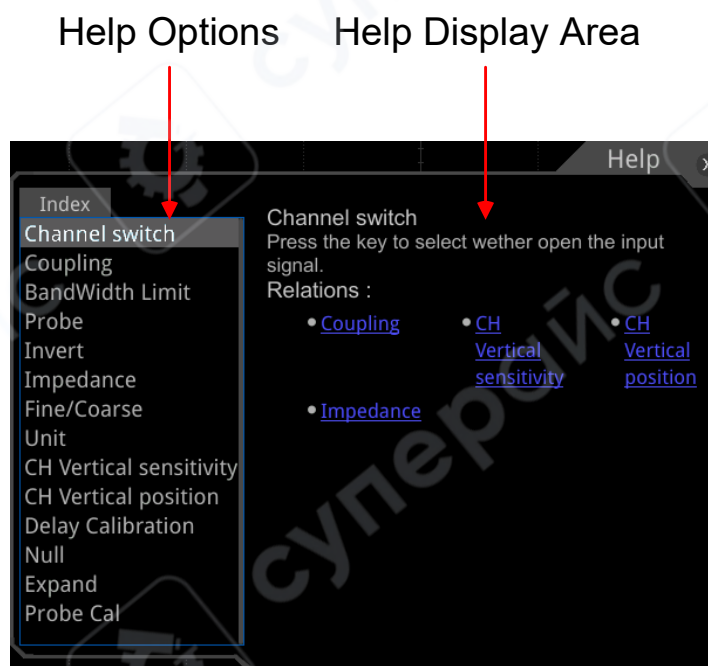

Figure 4.23 Help Information
2. Press the **Content** menu key or tap the "Content" menu item, then the help information is displayed on the screen, as shown in *Figure 4.23*. The help interface mainly consists of two sections. The left section lists "Help Options", and the right section is the "Help Display Area".